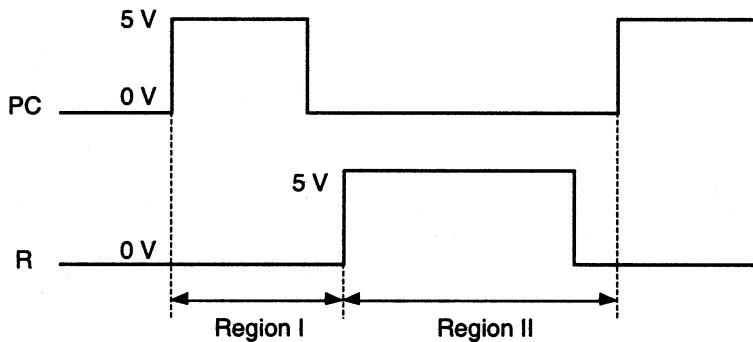

Figure P10.1
- 10.1** Consider the DRAM circuit shown in Figure 10.45 in the text. The threshold voltage of the two precharge transistors is 2V. Calculate the steady-state voltages of  $V_D$  in region I and region II of Fig.P10.1 by assuming the following: